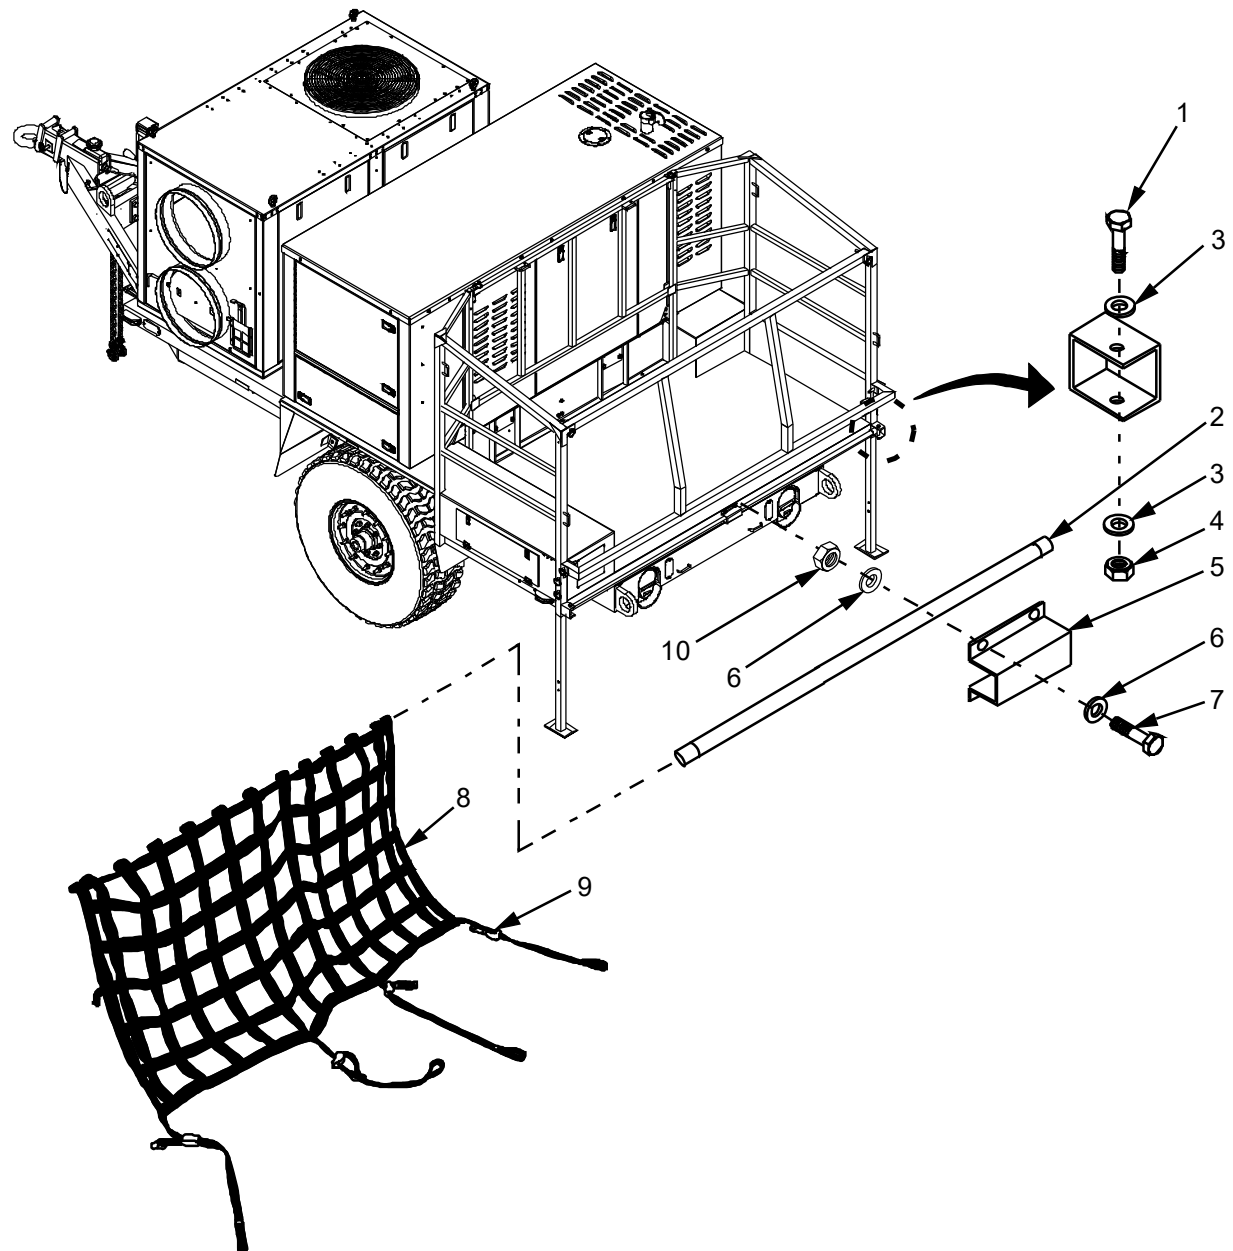

Figure 2. Cargo Net Removal/Replacement.
1. Disconnect six quick disconnects (Figure 2, Item 9) that secure cargo net (Figure 2, Item 8).
2. Remove and retain two bolts (Figure 2, Item 1), four flat washers (Figure 2, Item 3), and two lock nuts (Figure 2, Item 4) that secure mounting pole (Figure 2, Item 2) to trailer frame.
3. Remove and retain four bolts (Figure 2, Item 7), eight flat washers (Figure 2, Item 6), and four lock nuts (Figure 2, Item 10) that secure center bracket (Figure 2, Item 5) to trailer frame.
4. Remove and retain center bracket (Figure 2, Item 5).
5. Remove mounting pole (Figure 2, Item 2) and cargo net (Figure 2, Item 8) from trailer frame.
6. Remove cargo net (Figure 2, Item 8) from mounting pole (Figure 2, Item 2). Retain mounting pole (Figure 2, Item 2) and properly discard cargo net (Figure 2, Item 8).
1. Insert mounting pole (Figure 2, Item 2) into loops on cargo net (Figure 2, Item 8).
2. Secure mounting pole (Figure 2, Item 2) and cargo net (Figure 2, Item 8) to trailer frame with two bolts (Figure 2, Item 1), four flat washers (Figure 2, Item 3), and two lock nuts (Figure 2, Item 4).
3. Install center bracket (Figure 2, Item 5) to trailer frame and secure with four bolts (Figure 2, Item 7), eight flat washers (Figure 2, Item 6), and four lock nuts (Figure 2, Item 10).
4. Secure cargo net (Figure 2, Item 8) to trailer with six quick disconnects (Figure 2, Item 9).